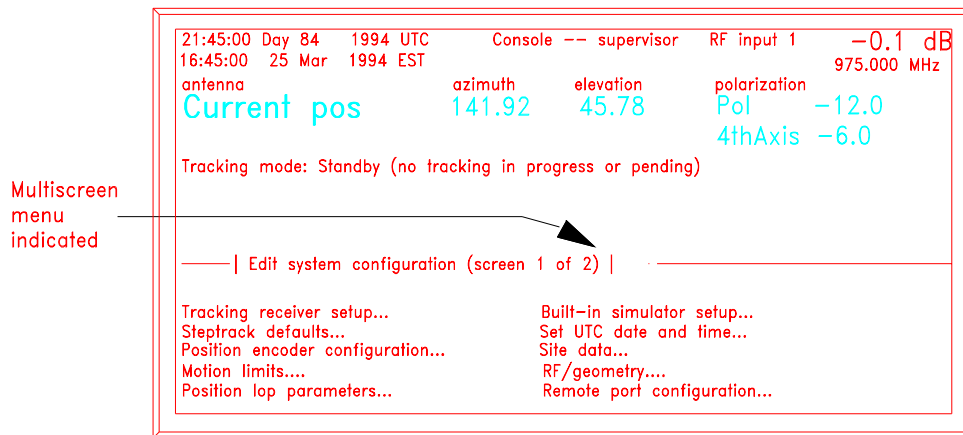

Figure 5-2 Multiscreen Menu
Each screen can display up to 5 lines of text or 10 menu items (5 per column). If more information than can fit on one screen needs to be displayed, there will be a message in the screen title as shown in Figure 5-2. To view the next screen of a multiscreen menu, simultaneously press [SHIFT] and [F6 DN]. To view the previous screen of a multiscreen menu, simultaneously press [SHIFT] and [F6 UP]. Note that pressing [PRIOR] will return the system to the previous menu, or moves you up the menu tree. It will **not** return you to the previous screen.